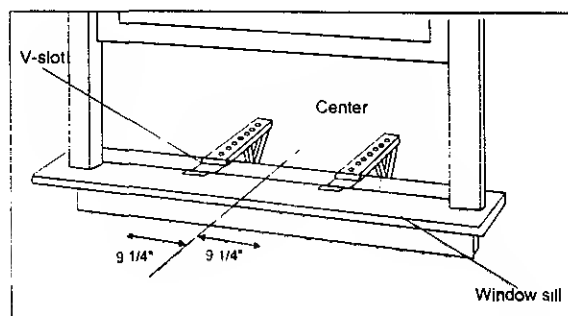
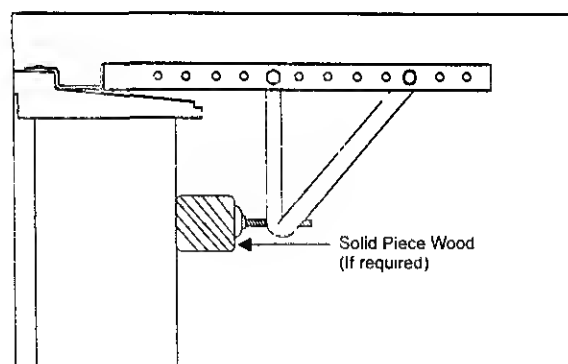

Fig 14
Fig 15
Two bolts per bracket. Secure with the (2) **1/4"** lock washers and (2) **1/4"** nuts. **DO NOT** immediately tighten these bolts as it may be necessary to adjust the depth of the **bracket assembly**, depending on the depth of your window sill. See (Fig 14). Install the two **leveling screws** into the 90° support brackets. Test the bracket assembly in the window before cabinet installation. If the leveling screws are distanced too far away from the wall to provide stability, it may be necessary for you to shim this area with a solid piece of wood. See (Fig 15)
B. Measure the inside window sill width and find the center as shown in (Fig 14) Measure 9 1/4" from the center line on each side and mark these points. Align the **V-slot** in each bracket on these marks and mount the brackets to the sill using **3/4" screws** provided. Brackets should be perpendicular to the inside window sill. See (Fig 14)
Use a solid piece of wood to provide stability. This will be required when sills are extra deep. See (Fig. 15).